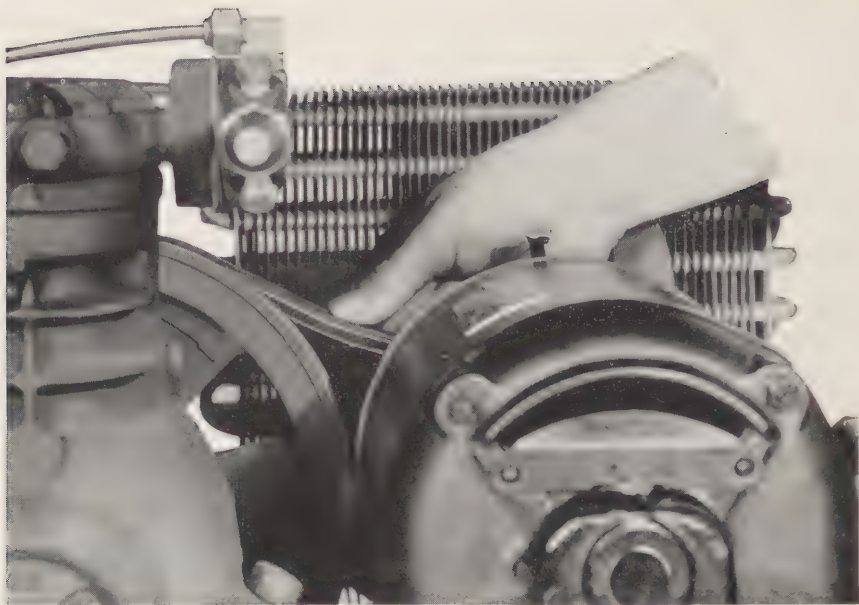

Figure 43. Inspecting belt tension.
- (1) The tension of the belt should permit a depression of about  $\frac{1}{2}$  inch midway between pulleys as indicated in fig 43.
- (2) Loosen the 4 nuts at the base of the motor and slide the motor away from the compressor to increase the tension, and toward the compressor to decrease the tension.
- (3) Square the motor with the condensing unit base to secure proper alinement.
- (4) Tighten the 4 nuts at the base of the motor.